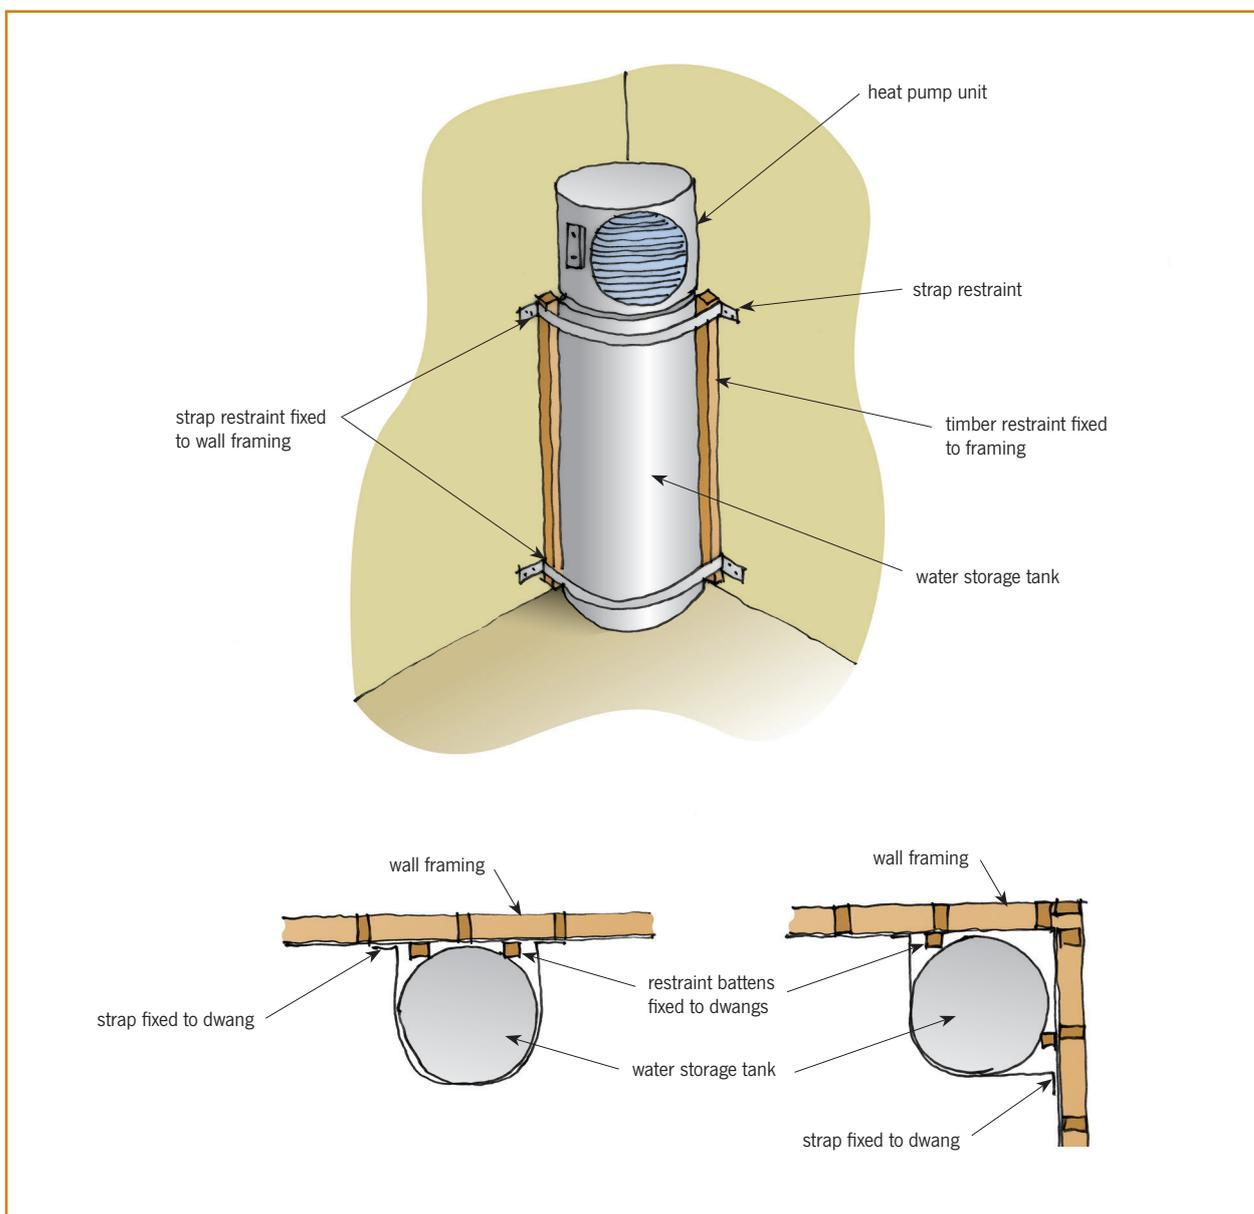

Figure 2. Recommended restraints from G12/AS1.
8.2.3 Acceptable Solution G12/AS1 gives restraint methods suitable for tanks up to 360 litres. Storage water heaters should be restrained with 25 × 1 mm galvanised steel straps tensioned when fixed in place. Straps at top and bottom should be no more than 100 mm from the end of the tank. For integral heat pump water heating units, the heat pump unit sits on top of the tank. Therefore, care is required to ensure that the top strap is aligned with the tank and not the external casing of the integral unit (Figure 2). Tanks over 200 litres should have a third strap in the centre.